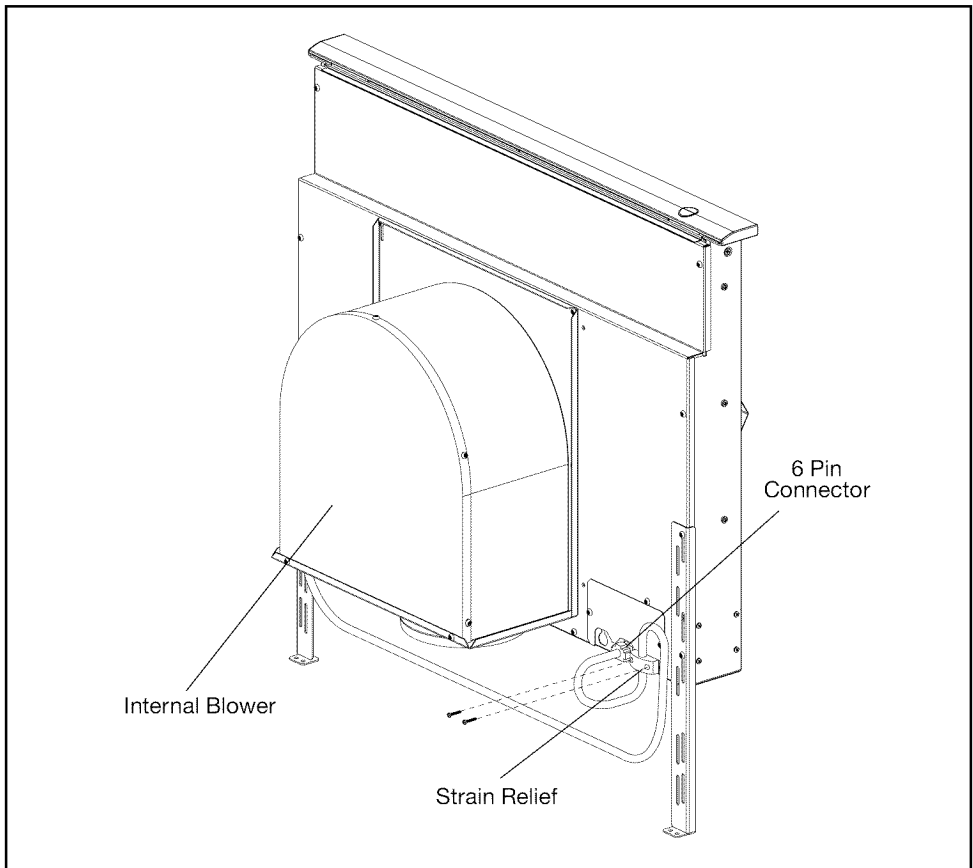

Fig. 9 – Internal Blower
**Integral Blower** (see Figures 9 and 11 for further detail):